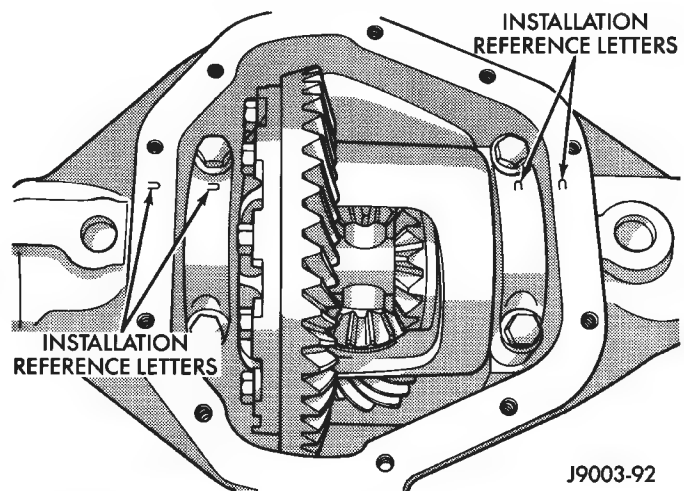

Fig. 60 Differential Bearing Cap Reference Letters
(6) Install the bearing caps at their original locations (Fig. 60). Tighten the bearing cap bolts to 61 N·m (45 ft. lbs.) torque.